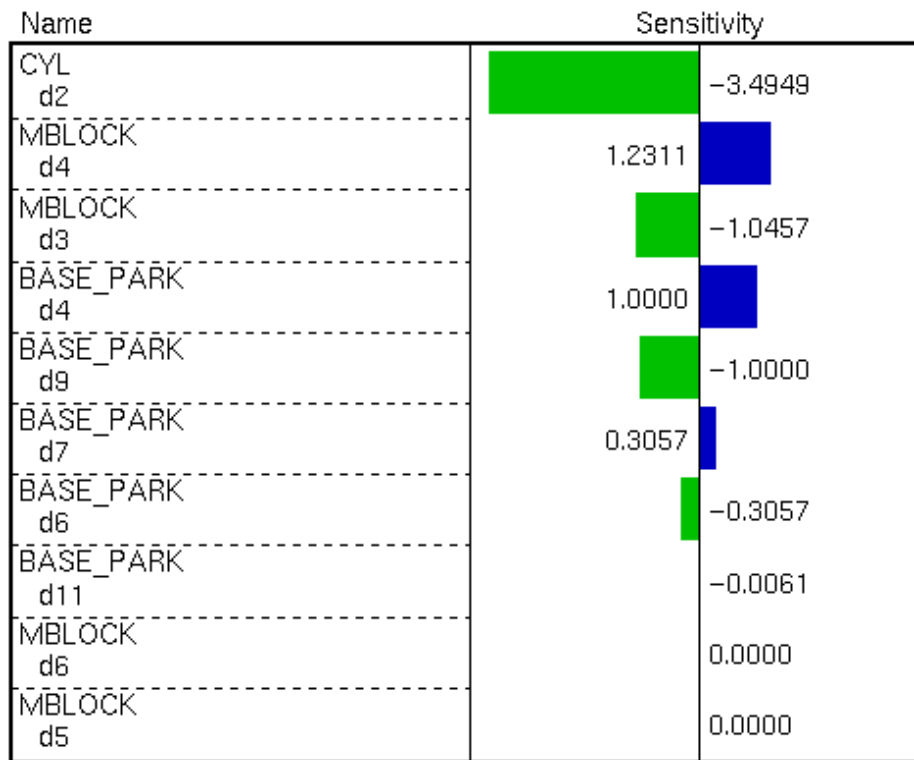

Figure 2.2
6. The plot should match Figure 2.2 below: